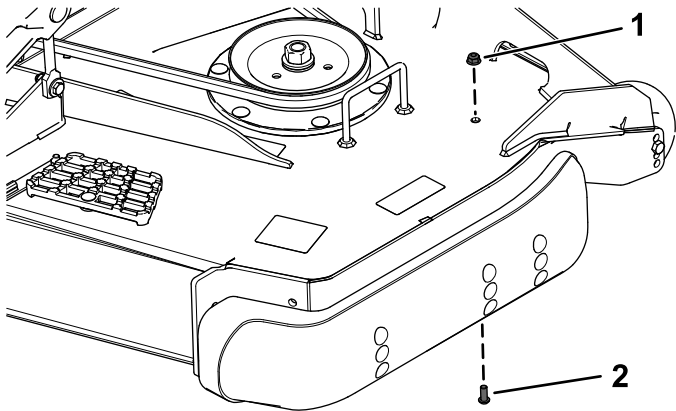

Figure 6
1. Remove the button-head bolt (5/16 x 3/4 inch) and flange nut (5/16 inch) from the left side of the mower deck (Figure 6).